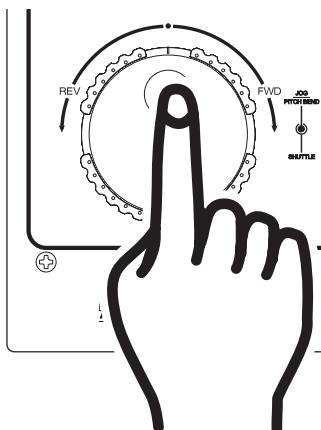

Figure 17
Adjusting the Pitch Slider's Range (21): You may change the PITCH SLIDER'S (23) operating range. To change the operating range be sure the pitch function is turned on, see figure 17. The pitch percentage can be changed between +/-8%, +/-12%, and +/-16%. +/-8% will allow the least amount of pitch manipulation and +/-16% will allow the most amount of pitch manipulation. To adjust to the different values tap the P.SELECT BUTTON (8). The LED beside the PITCH BUTTON (7) will indicate which pitch percentage mode the unit is operating in. Glowing green for +/-8%, glowing orange for +/-12%, or glowing red for +/-16%. Note, the pitch function must be activated to receive a LED reading.